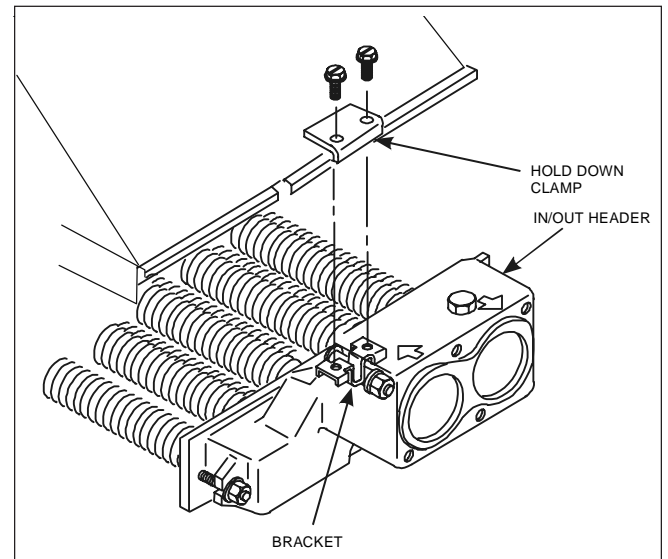

Figure 12. Flue collector hold-down brackets.
6. Remove the screws securing the two flue collector hold down clamps and remove the clamps (see Figure 12). Remove flue collector.